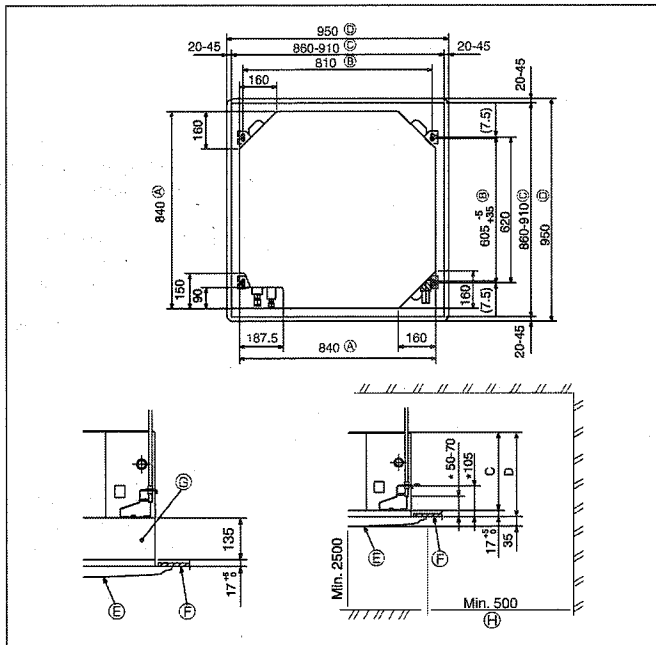

Fig. 3-2
④ Band	8
⑤ Screw with washer (M5 × 25) for mounting grille	4
⑥ Drain socket	1
⑦ Insulation	1
⑧ Flare nut 1/4F(P60)	1
3.2. Ceiling openings and suspension bolt installation locations (Fig. 3-2)
* The dimensions of ceiling opening can be regulated within the range shown in Fig.3-2; so center the main unit against the opening of ceiling, ensuring that the respective opposite sides on all sides of the clearance between them becomes identical.